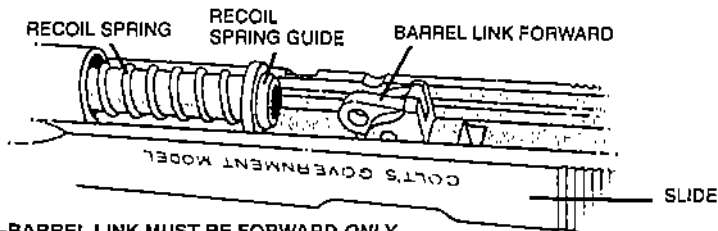

FIGURE 10—BARREL LINK MUST BE FORWARD ONLY FOR BARREL TO BE REMOVED AND ASSEMBLED THROUGH THE SLIDE.
8. (A & B) Lift recoil springs and guide and pull them rearward out of slide. (See Figure 10).
1. (**A & B**) With slide upside down and barrel link forward, assemble barrel into the slide, as in Figure 10.